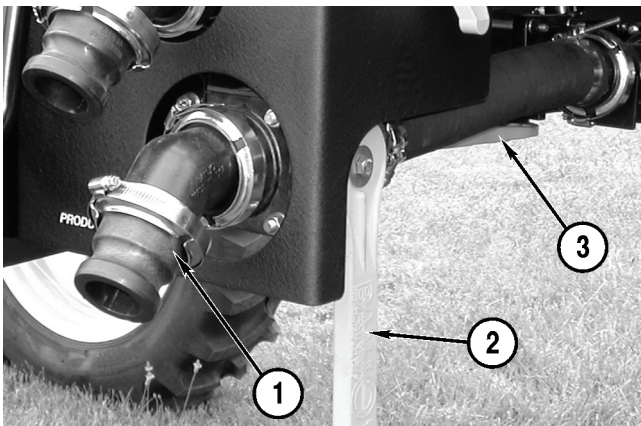

Figure 4-13
2. Remove the cap from the product quick fill inlet (**Figure 4-13, 1**) and connect the hose from the nurse tank to the inlet.
3. Close the rinse tank valve (**Figure 4-13, 2**).
4. Open the product fill valve (**Figure 4-13, 3**) (shown in the OPEN position) and fill tank to desired level.